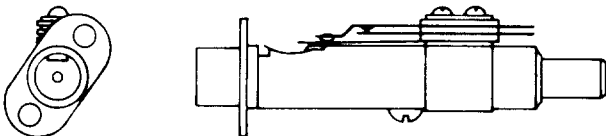

Fig. 27—622A Jack
2.21 622A: The 622A coaxial-type jack (Fig. 27) has a pair of auxiliary contacts. The jack is designed for a solderless shield connection to a 728A cable and also to be used with the 440A plug. When the plug is inserted, the auxiliary contacts break. A KS-15712, L22, shield connector and a mounting screw are shipped loose. This jack is used with the L5 Coaxial System.